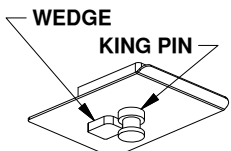
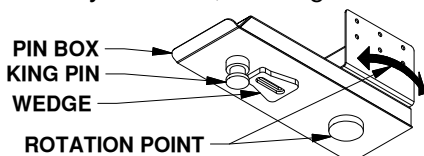

Figure F1: Capture plate.
Figure F2: Pin box with rotation point.
**⚠ WARNING:** Towing a trailer without a functioning pivot point between the hitch & trailer will cause significant damage to the hitch which may lead to serious injury or death. Some pin boxes such as a Pull-rite® Superglide Capture Plate remove the pivot point between a trailer and coupler and should not be used, See Figure F1. Pin boxes with a wedge that relocates the pivot point such as a Reese® Sidewinder or Reese® Revolution may be used, see Figure F2.